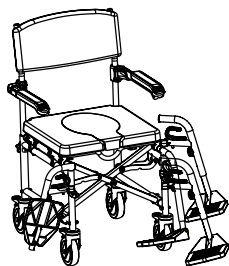

Fig.17
- Insert the footrests from the side and rotate them to the front until fastening into the holder (Fig.17);